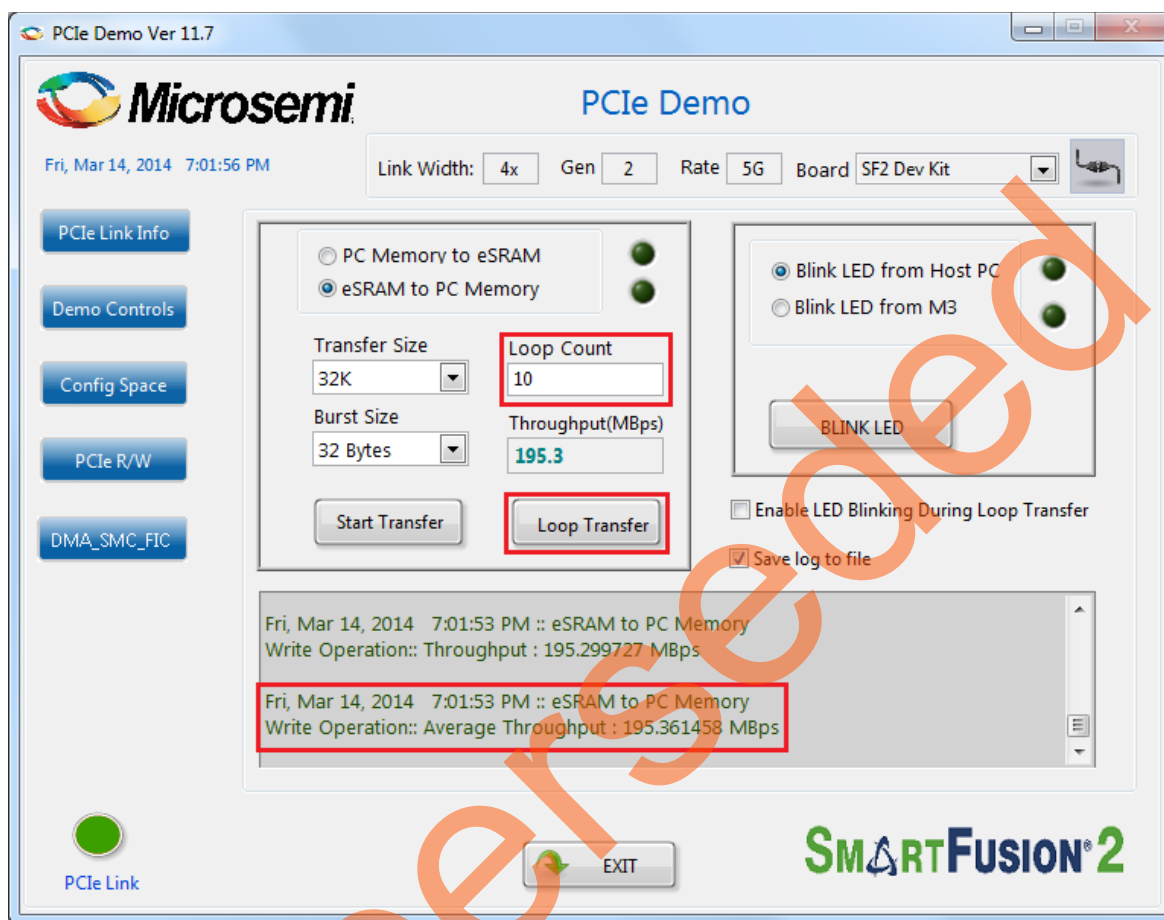

Figure 29 • Throughput in the DMA Transactions from eSRAM to the Host PC
21. Enter 10 in the **Loop Count** field and click **Loop Transfer** to perform 10 repeated DMA transactions. After completion of data transfer, the throughput is displayed. Figure 29 shows the throughput in the DMA transactions from eSRAM to the Host PC.